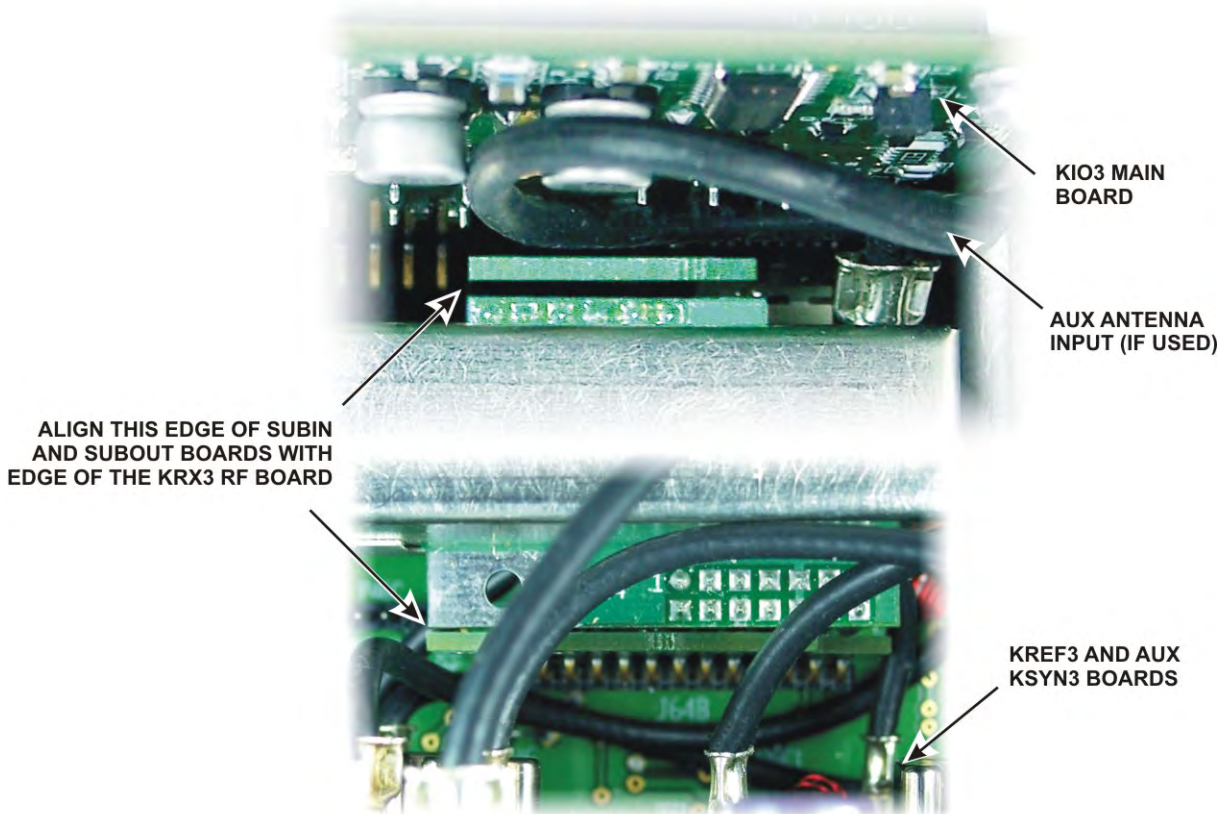

Figure 50. Aligning the SUBIN and SUBOUT Connectors.
□ With all the TMP cables attached, lower the KRX3 module into the K3 so that the connectors on the KRX3 mate with the connectors on the SUBIN and SUBOUT interface boards (see Figure 50). The knurled nuts are provided as handles to make holding the assembly easier. You may need to adjust the cables near the SUBOUT board so they don't interfere with mating the connectors. If the connection between J92 and the KAT3 is used, form the excess cable into a loop in front of the KIO3 board.